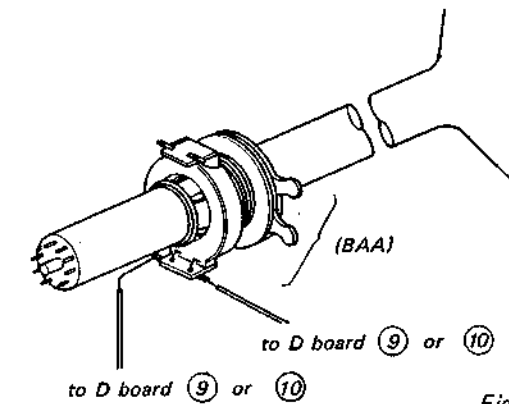

Fig. 4-12.
3. Connect each lead which is connected terminals 9 and 10 to terminal of beam alignment coil BAA as shown in Fig. 4-12.